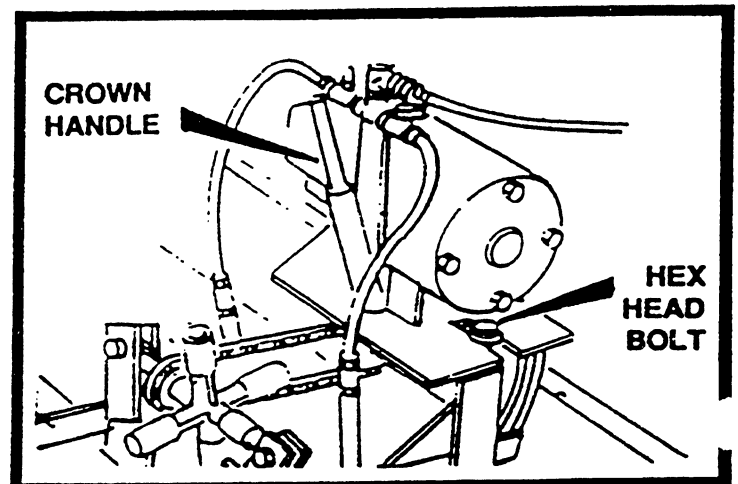

FIGURE 30
A. Loosen nut in slot under vibration motor as shown in figure 30.